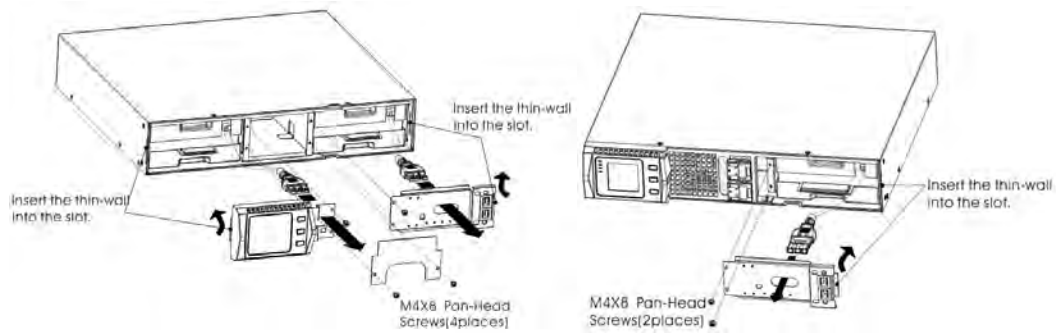

FIG.25 The Installation for baffle of battery pack
3. Remove the connection cables between battery box and UPS. Release the screw of the baffle of the battery pack as the Fig.25 shows, then remove the baffle from the left or right.